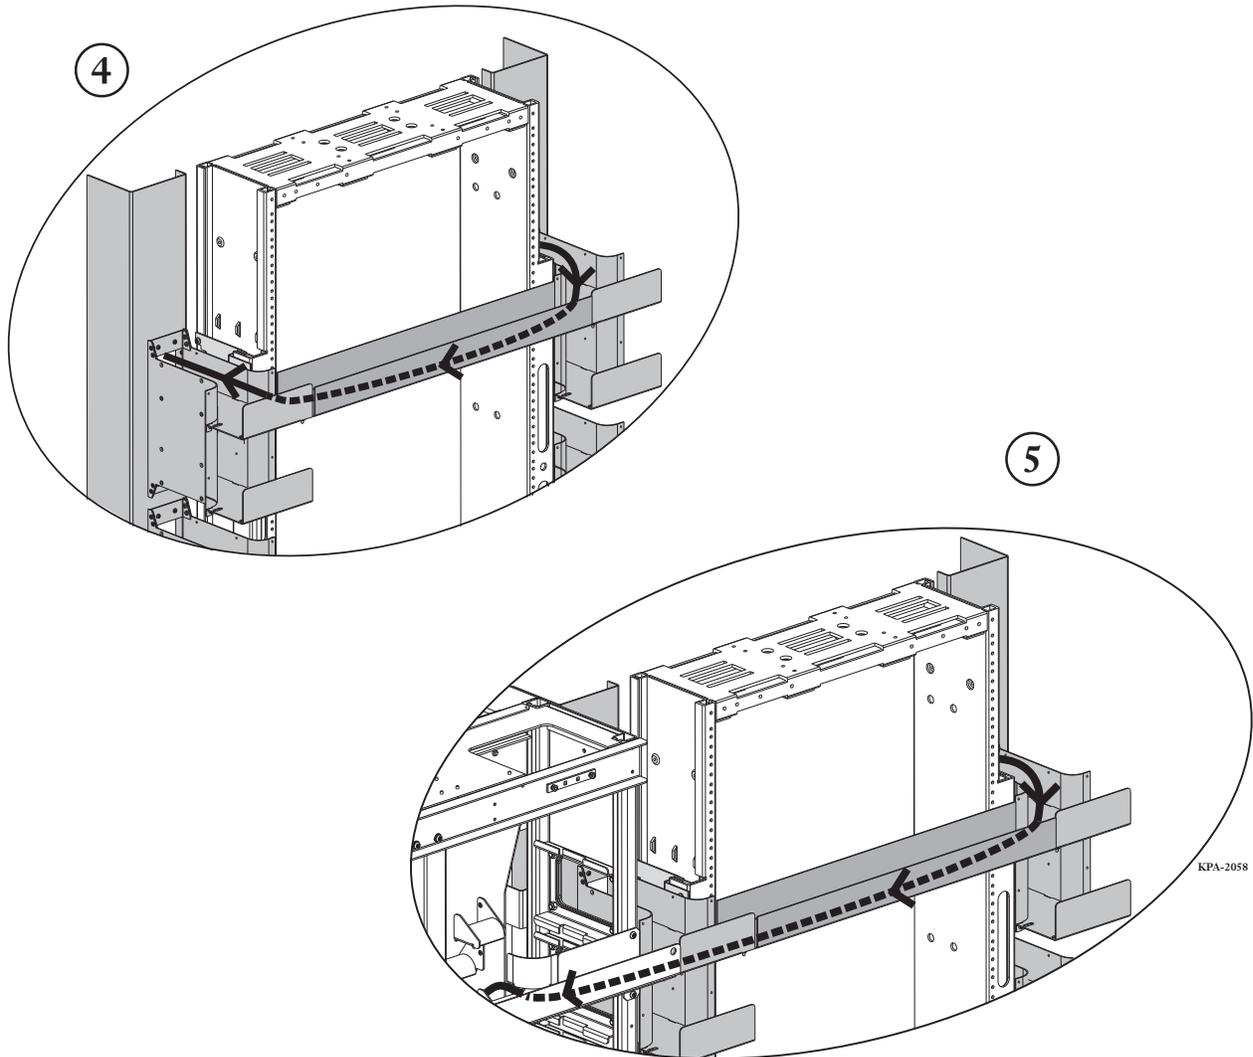

Figure 4 — Route Jumpers through the Trough
Step 4: To route jumpers to the opposite IBU, transition them through the jumper trough as shown in Figure 4, Detail 4.
Step 5: To route jumpers into the EMF frame, bring jumper into EMF from from the rear trough (Figure 4, Detail 5).